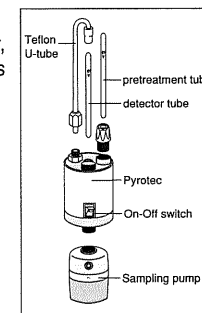

fig.1
5. Insert the tube securely into Gastec Pyrotec Pyrolyzer with the arrow (➔) on the tube pointing toward Gastec Pyrotec Pyrolyzer (fig. 1).